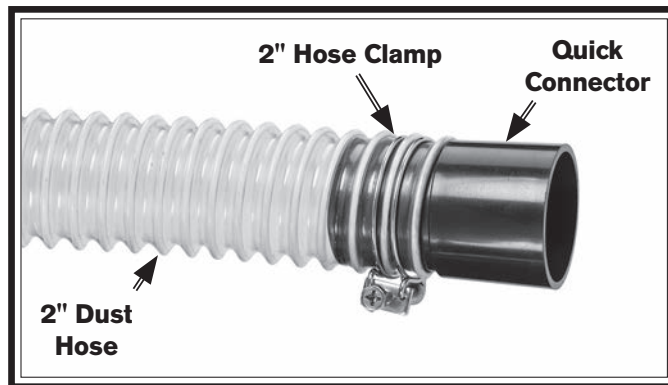

Figure 17. Quick connector attached to dust hose.
10. Attach quick connector(s) to open end(s) of 2" hose(s) with 2" hose clamp(s) (see **Figure 17**).